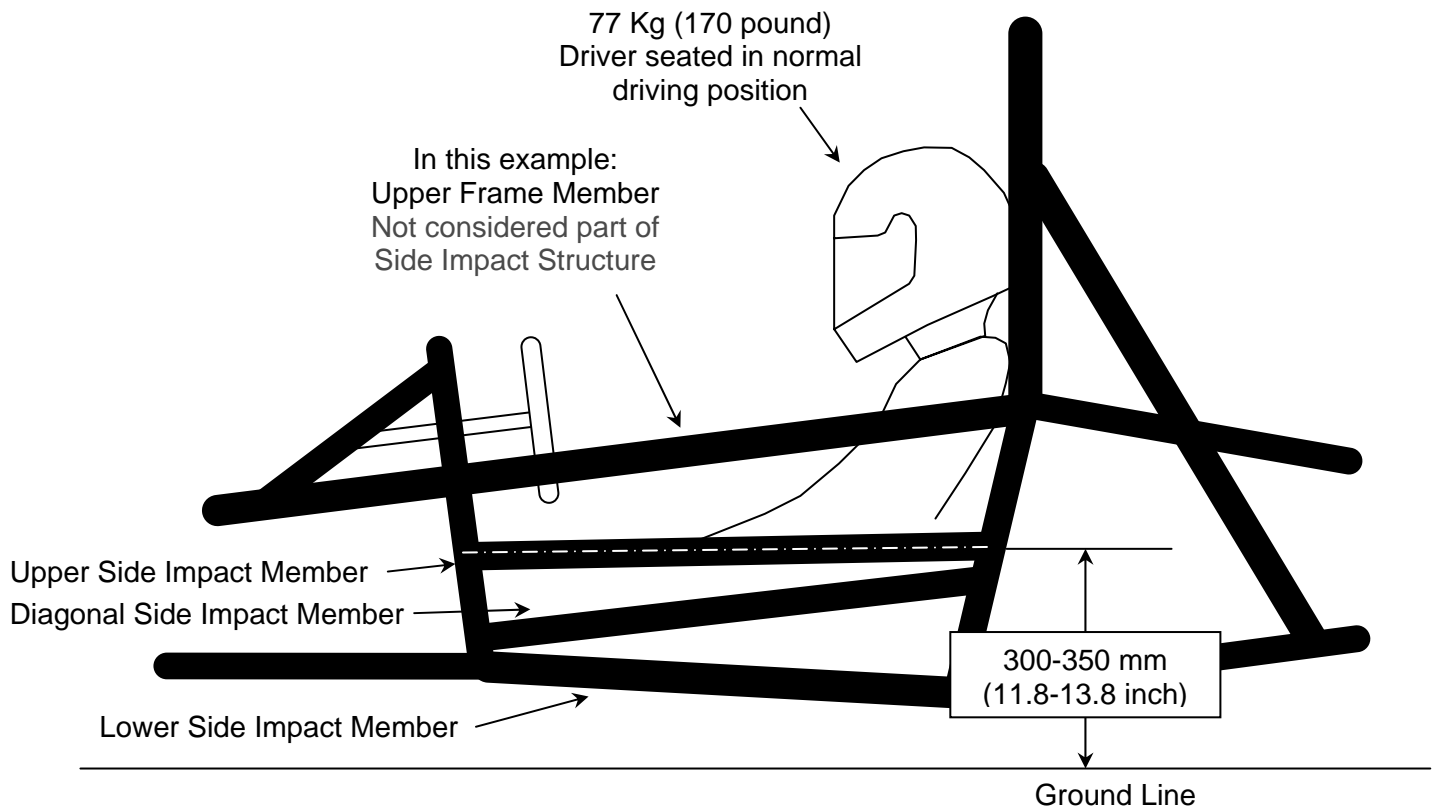

Figure 5
The Side Impact Structure must be comprised of at least three (3) tubular members located on each side of the driver while seated in the normal driving position, as shown in Figure 5. The three (3) required tubular members must be constructed of material per Section 3.3.3. The locations for the three (3) required tubular members are as follows:
- (A) The upper Side Impact Structural member must connect the Main Hoop and the Front Hoop at a height between 300 mm (11.8 inch) and 350 mm (13.8 inch) above the ground with a 77kg (170 pound) driver seated in the normal driving position. The upper frame rail may be used as this member if it meets the height, diameter and thickness requirements.
- (B) The lower Side Impact Structural member must connect the bottom of the Main Hoop and the bottom of the Front Hoop. The lower frame rail/frame member may be this member if it meets the diameter and wall thickness requirements.
- (C) The diagonal Side Impact Structural member must connect the upper and lower Side Impact Structural members forward of the Main Hoop and rearward of the Front Hoop.